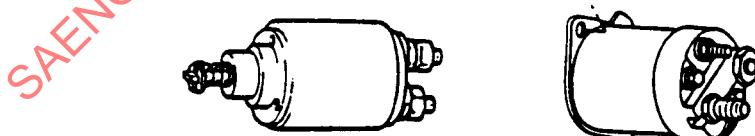

FIGURE 1—STARTER SOLENOID ASSEMBLY
4. Remanufacturing Procedure—This document provides a procedure for remanufacturing starter solenoids for automobiles and light trucks, similar to the solenoid shown in Figure 1.